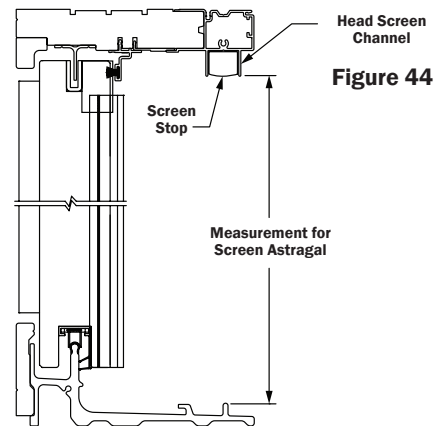

Figure 44
49. Install the screens per the instructions included in the screen packet. Measure the distance between the head screen channel and the screen roller track. Cut the screen astragal 1/8" shorter than this measurement (Fig. 44).